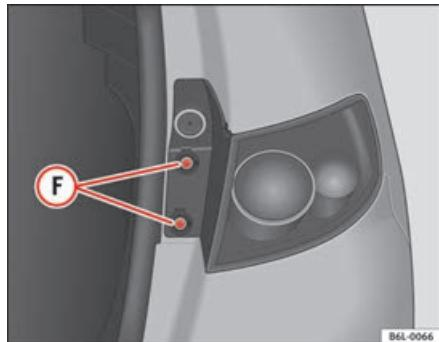

Fig. 166 Rear lights on bodywork
- Unscrew the screws **F** ⇒ **fig. 166** using a flat-blade screwdriver.